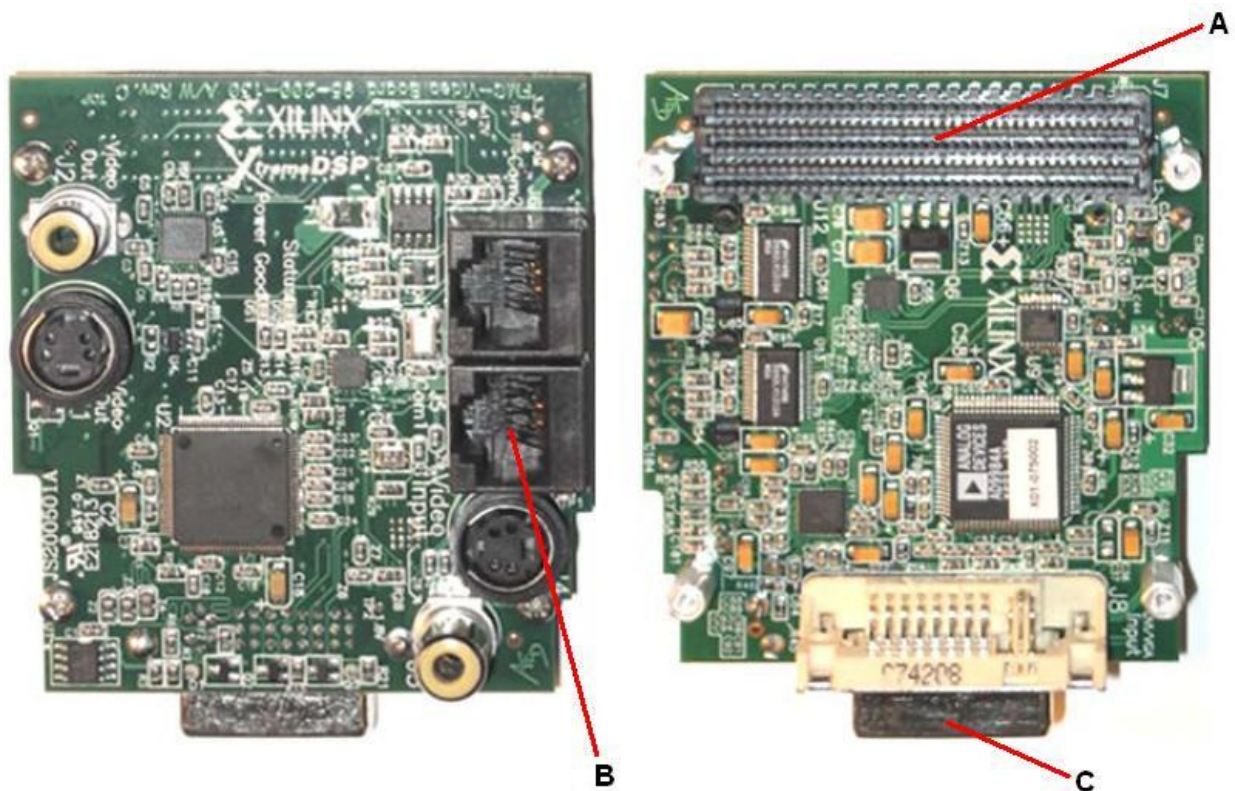
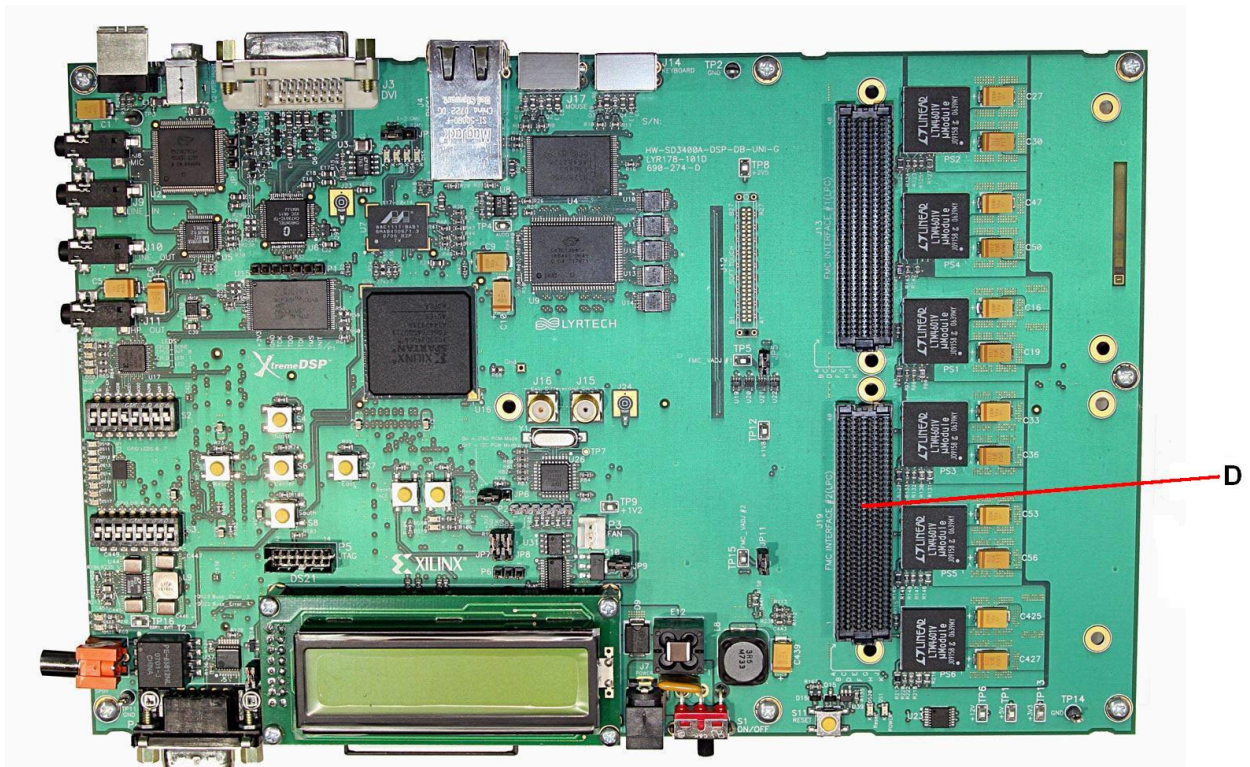

Figure 2: FMC-Video Daughter Card (Left: Top/Arial View, Right: Bottom/Underside View)
Figure 3: Spartan-3A DSP 3400A Development Platform
1. Locate the Spartan-3A DSP 3400A Development Platform (shown in Figure 3). Now locate the FMC-Video Daughter Card (shown in Figure 2). Plug the pins marked A of the FMC-Video Daughter Card in Figure 2 into the slot marked D of the Spartan-3A Board shown in Figure 3.